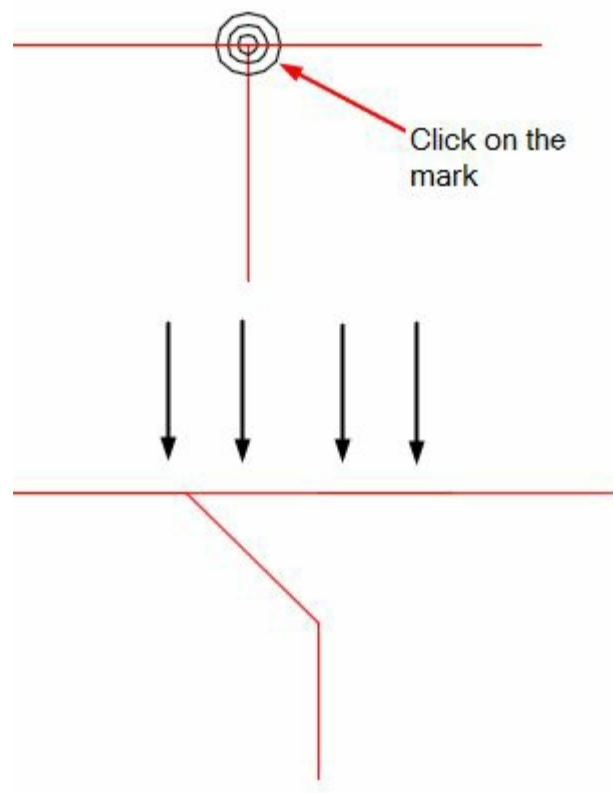

Figure-45. Angled tee
- Click on the tee, it will be converted to angled tee mark; refer to Figure-45.